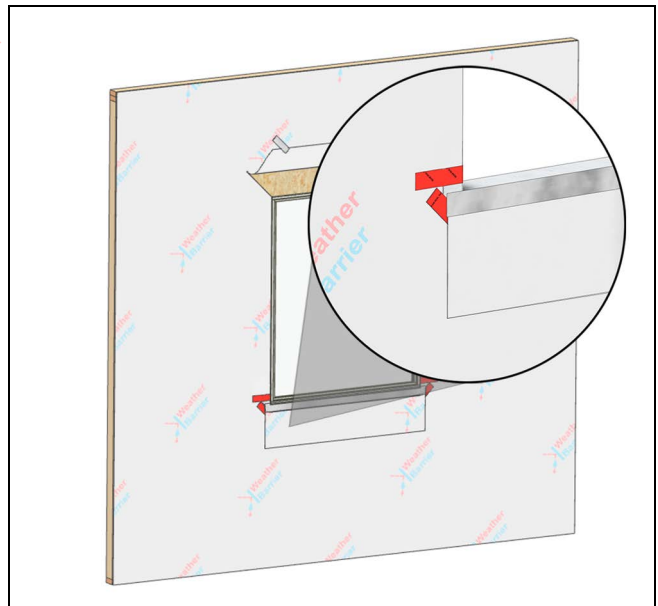

Figure 21
1. Optional Skirt: Install an optional "skirt" in applications with exposure to wind driven rain/climate. Use flashing material or a 12" strip of WRB and attach to the sill, overlapping at least half of the front face of the flange. See Figure 21.